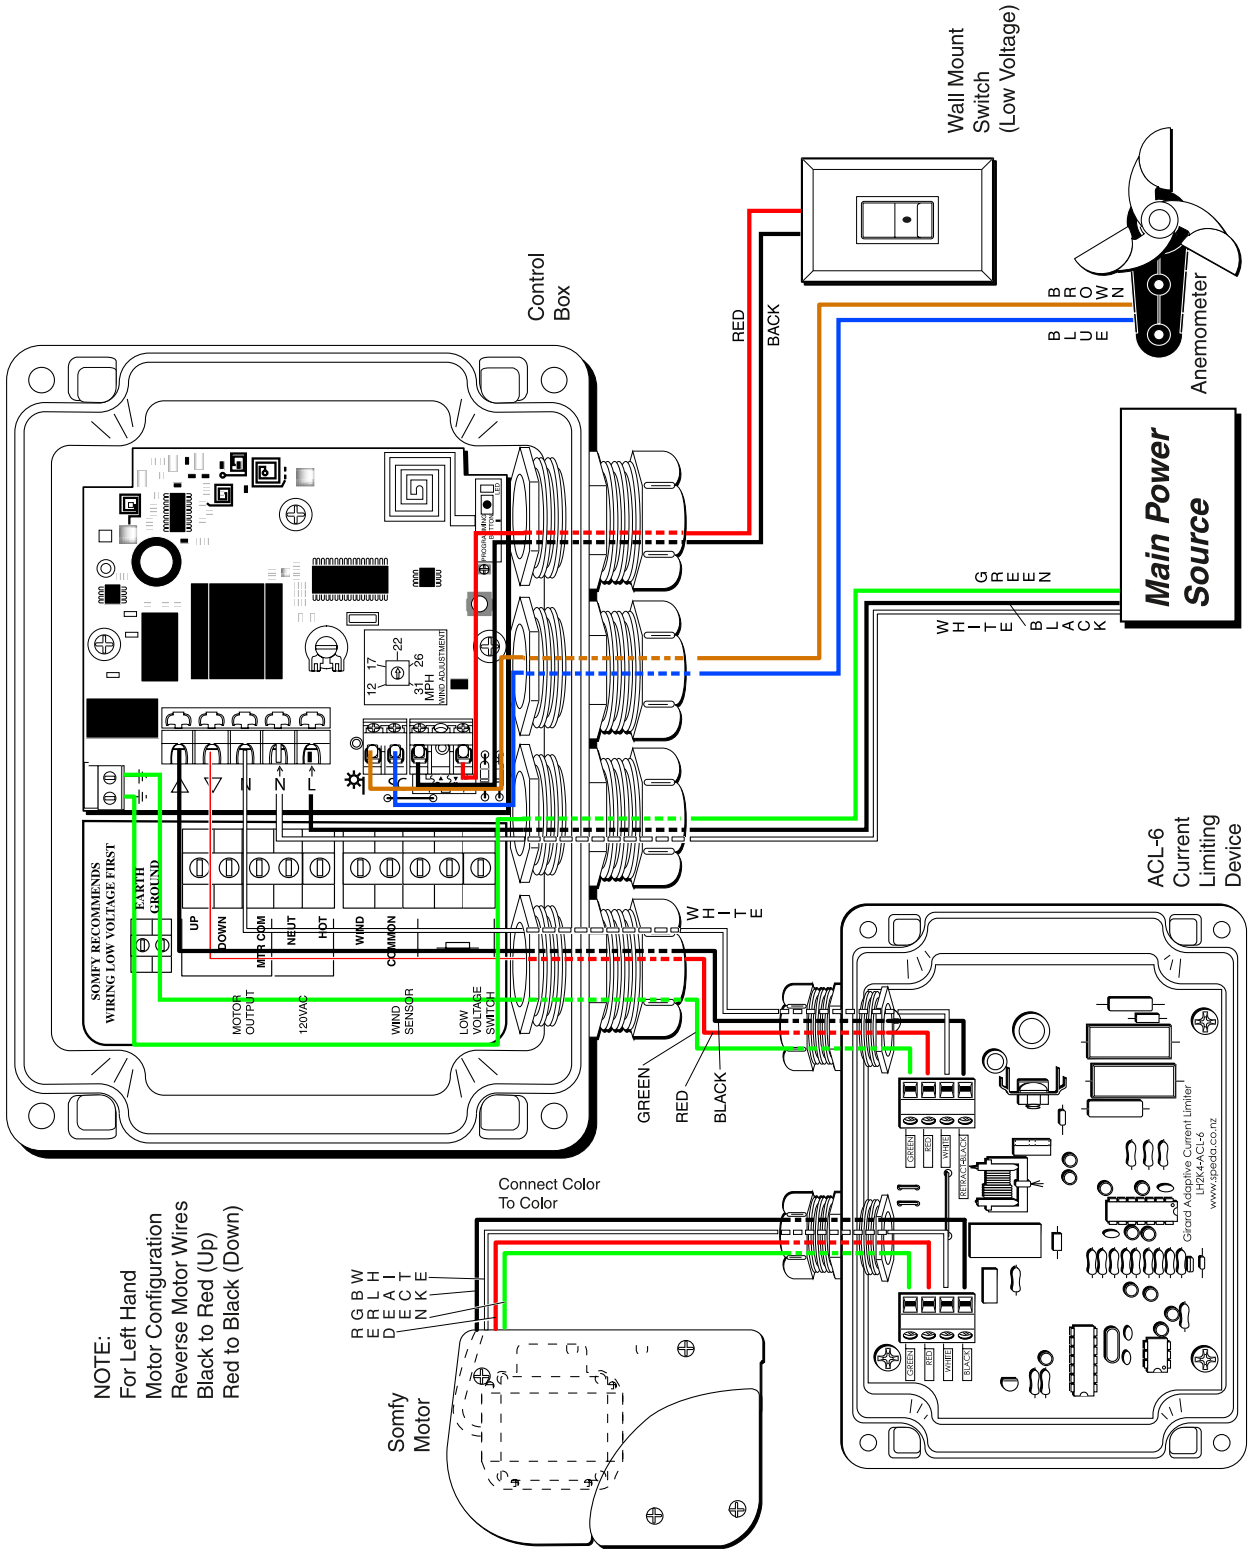

FIGURE 30
- b. Connect wires to first and third terminals (counting from bottom to top) in control box, located just to the right of “Low Voltage Switch” label (see bottom center portion of Wiring Diagram, Fig. 30).
2. Use remaining motor cord wiring to connect to ACL device (see Wiring Diagram, Fig. 30). Feed motor cord wires (white, *red*, black, and green) through one of ACL knockout holes and connect to *red* block with respective color to the input terminals.
1. With anemometer cord already fed into RV, insert anemometer wires (blue and brown) through wiring guide holes at bottom of control box and connect as shown on Wiring Diagram (Fig. 30).